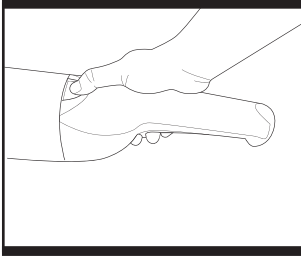

Fig. 9
6. ROTATING THE HANDLE (Fig. 9)